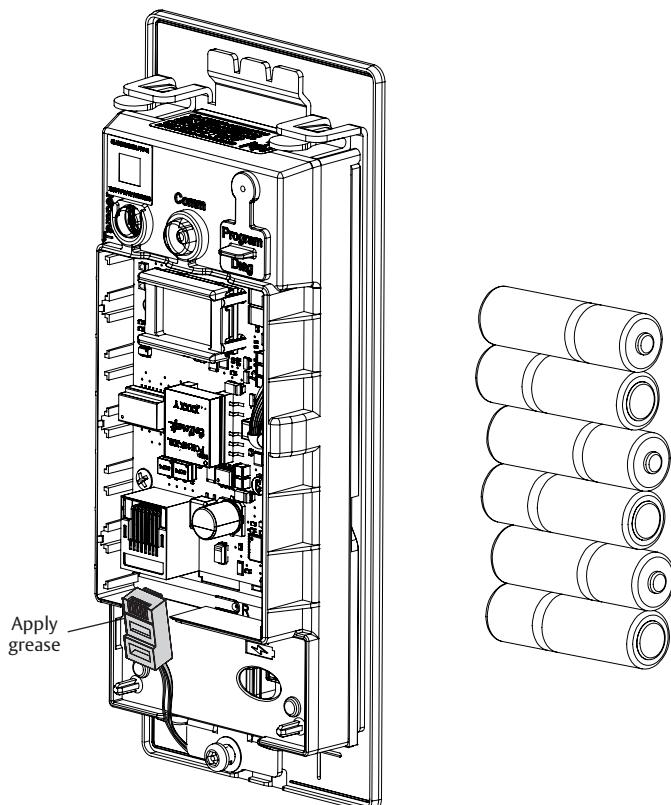

Figure 7-15A
**IMPORTANT:** Before inserting PoE plug into PoE connector, apply dielectric grease to top of plug, covering the pin area (Figure 7-15A).
1. Once controller is securely in place, connect RJ45 male connector to female RJ45 port on controller board (Figure 7-15A).